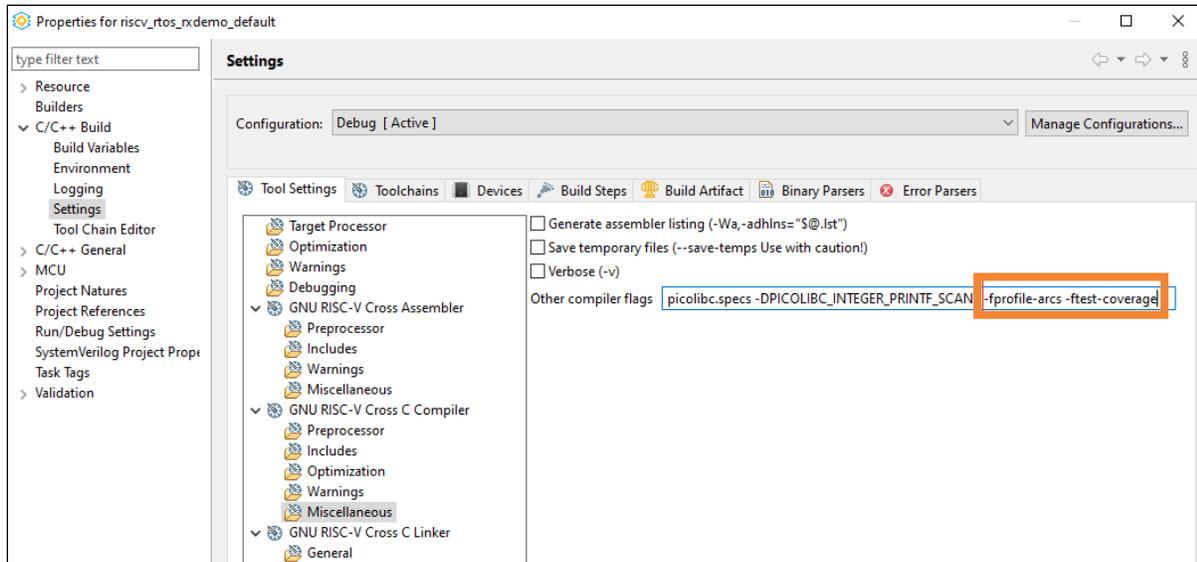

Figure 5.9. Compiler Flags
4. Select **GNU RISC-V Cross C Compiler > Miscellaneous**. Add the compiler flag, `-fprofile-arcs -ftest-coverage` (Figure 5.9).